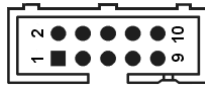

Figure 1: Connector pin numbering
When connector pin numberings are supplies, look for a square pad. This is pin 1. The connector pin numbering follows the numbering in figure 1
- Connect an oscilloscope to pin C of the test bench. An image similar to figure 1 should be visible.